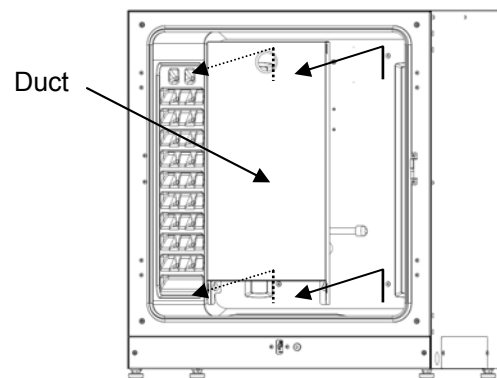

Fig. 5
6. Lift the duct and remove it from the pins on the rear side (Fig. 5).